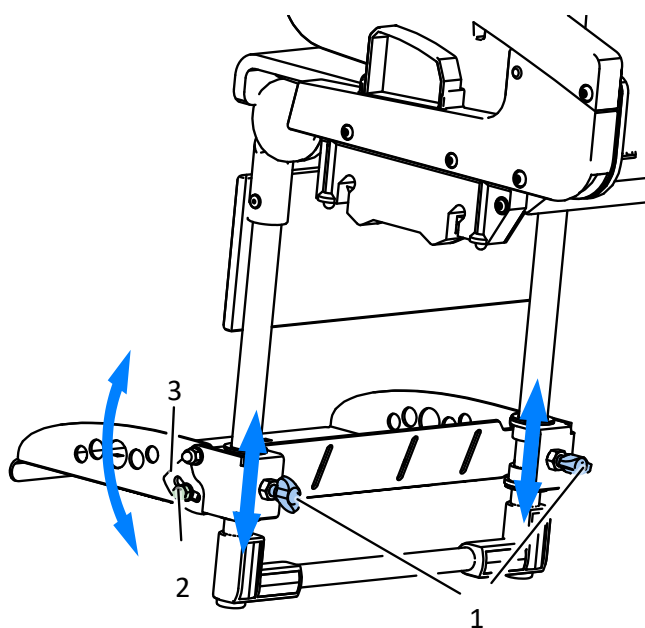

Fig. 24
In order to adjust the height of the footrest Fig. 24 loosen the knobs (1), set the desired height and then retighten the knob (1). The adjustment of the angle of the platform is done by loosening the nuts (2) and setting the blockade (3) of the platform's angle to reach the proper position of the footrest. Retighten the nuts (2) to secure the position of the platform.